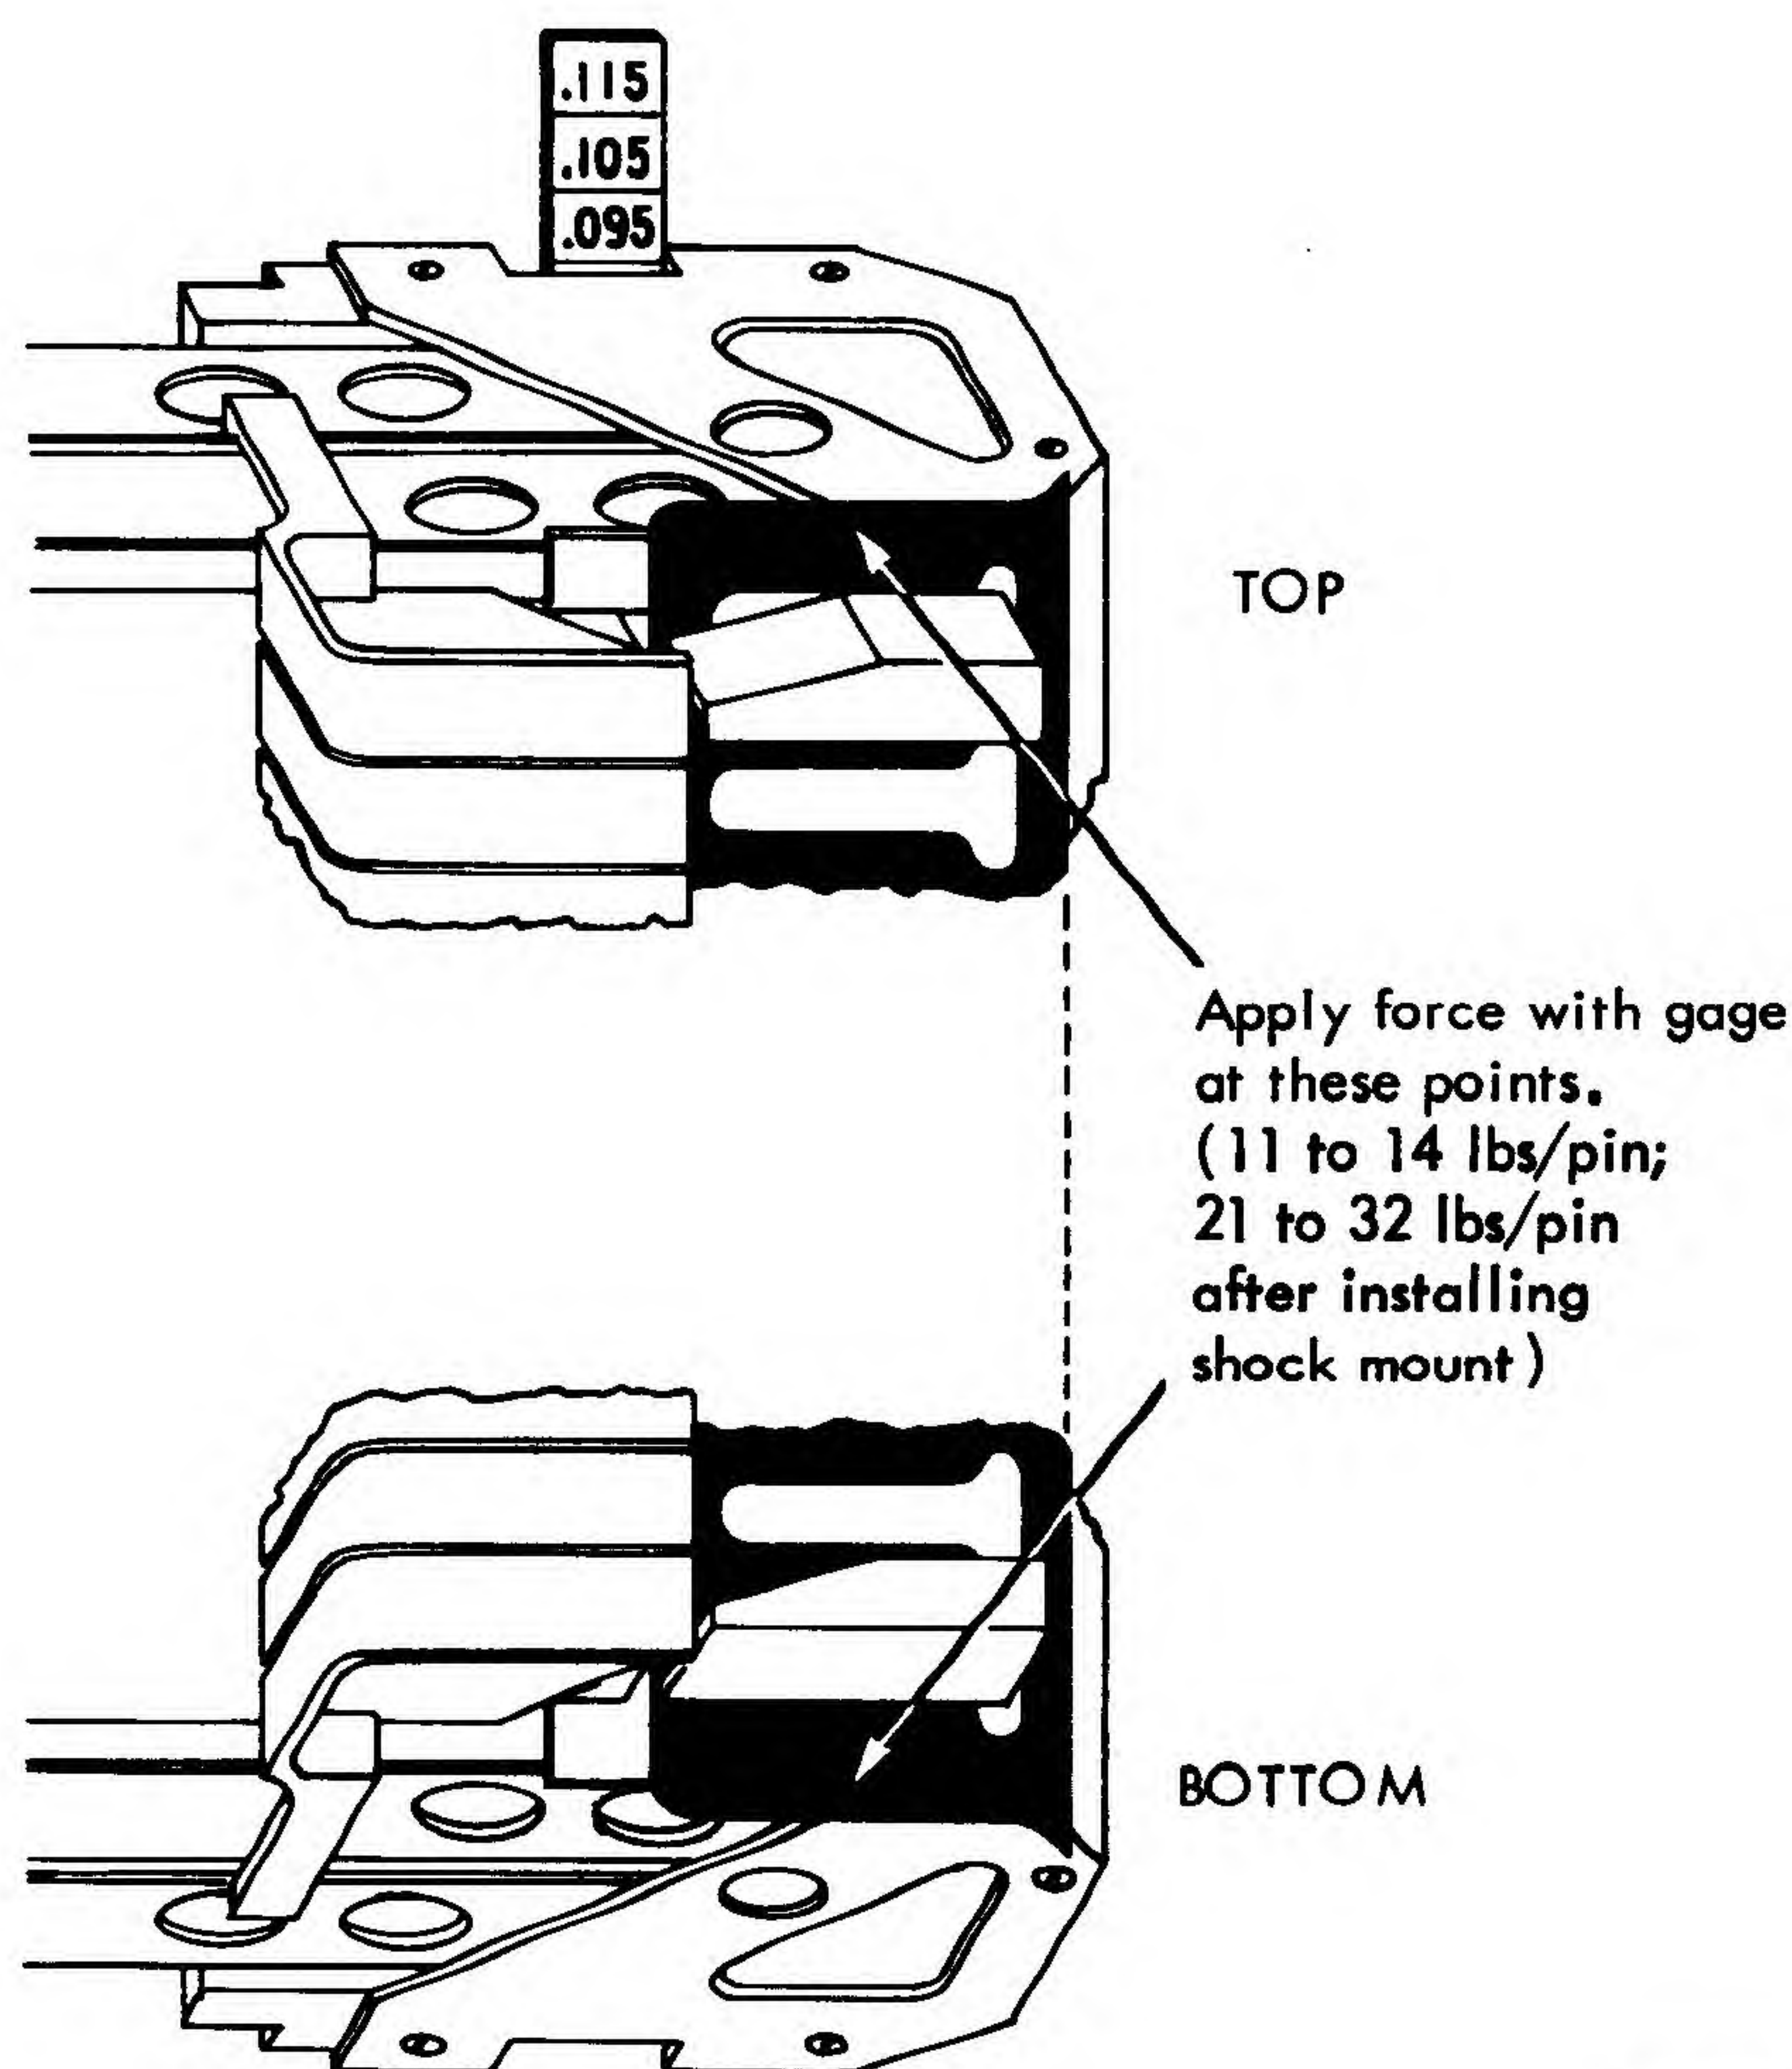
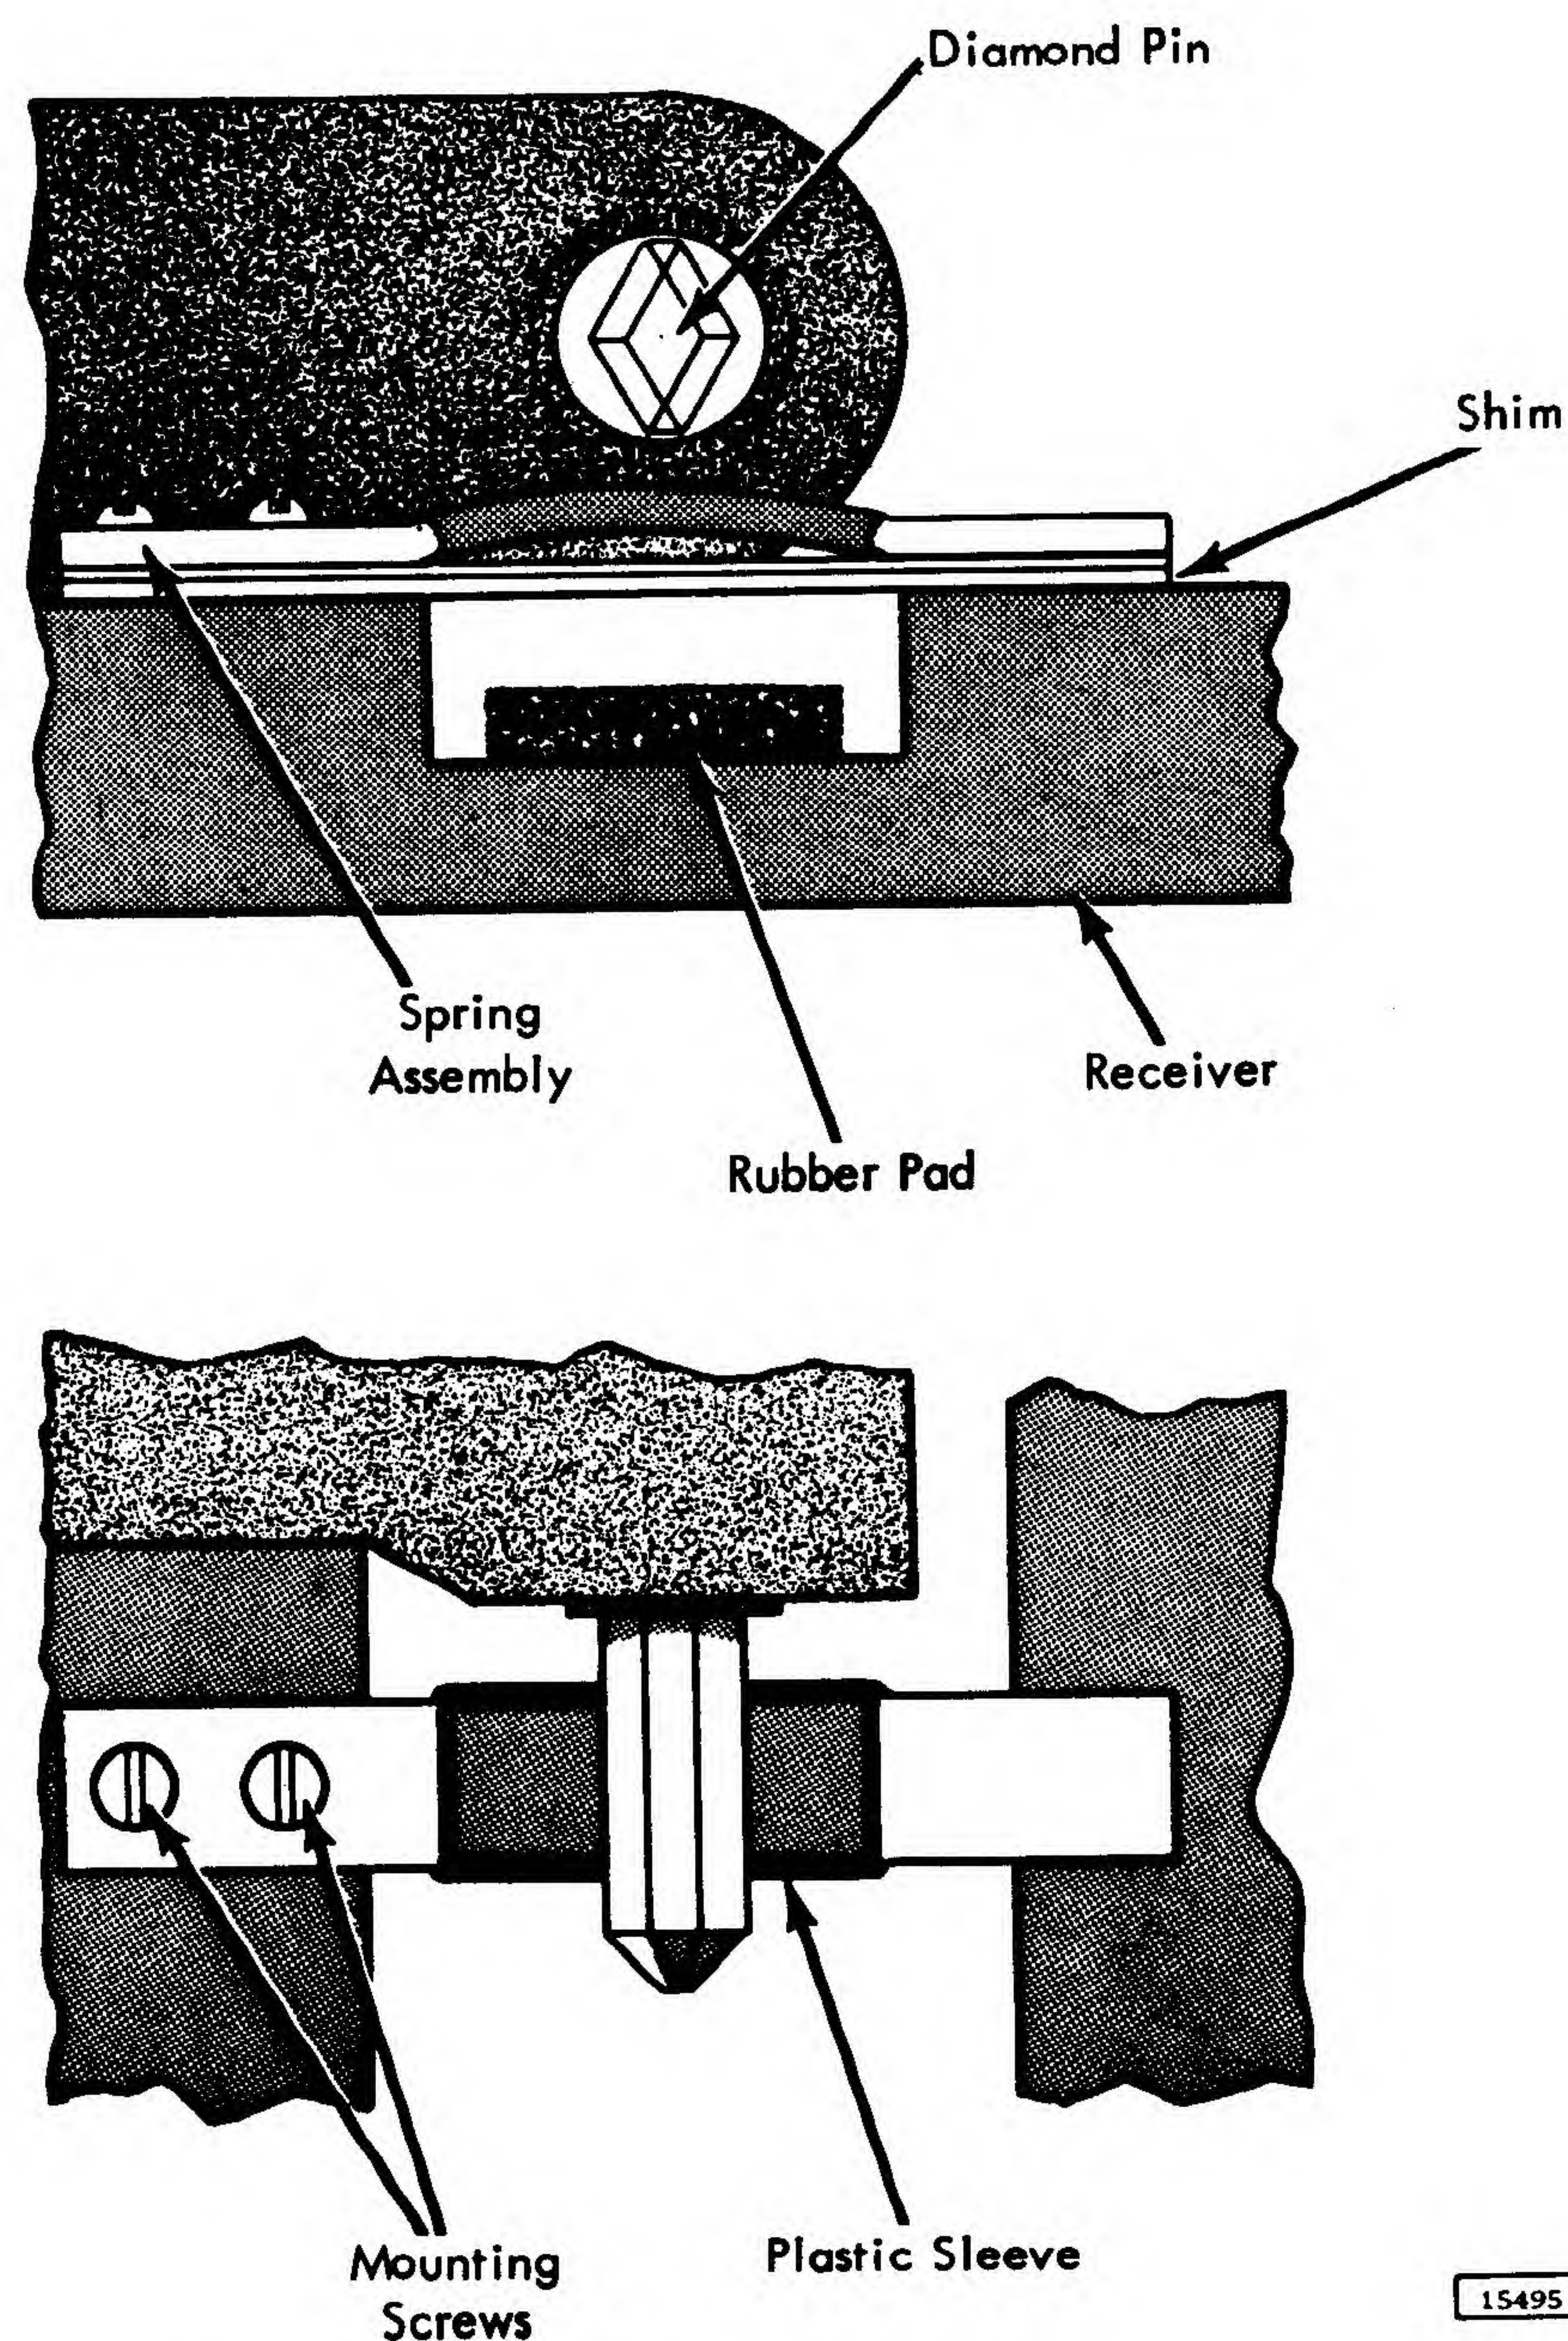

Figure 2-35. Force Measurement
Figure 2-36. Diamond Pin Springs
10. After the receiver is installed to the new actuator, check the force required to easily engage the diamond pins in their carriage position (Figure 2-35). If the required force is not within the 11 to 14 lb range, add or subtract shims as shown in Figure 2-36.
- a. With receiver locked to carriage, measure the distance between receiver and carriage with gage P/N 2108576 as shown in Figure 2-35.
- b. Note the number which appears on the gage just above the receiver (.095" as shown in Figure 2-35). This should indicate the shock mount to be used.
- e. Swing receiver in, and with a force gage, measure the force required to freely disengage each diamond pin (Figure 2-35). This force should be a minimum of 21 pounds at each pin but if it exceeds 32 pounds, use the next lower thickness shock mount.